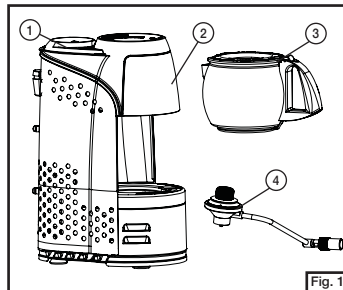

Fig. 1
- Remove components from carton. (Fig. 1)